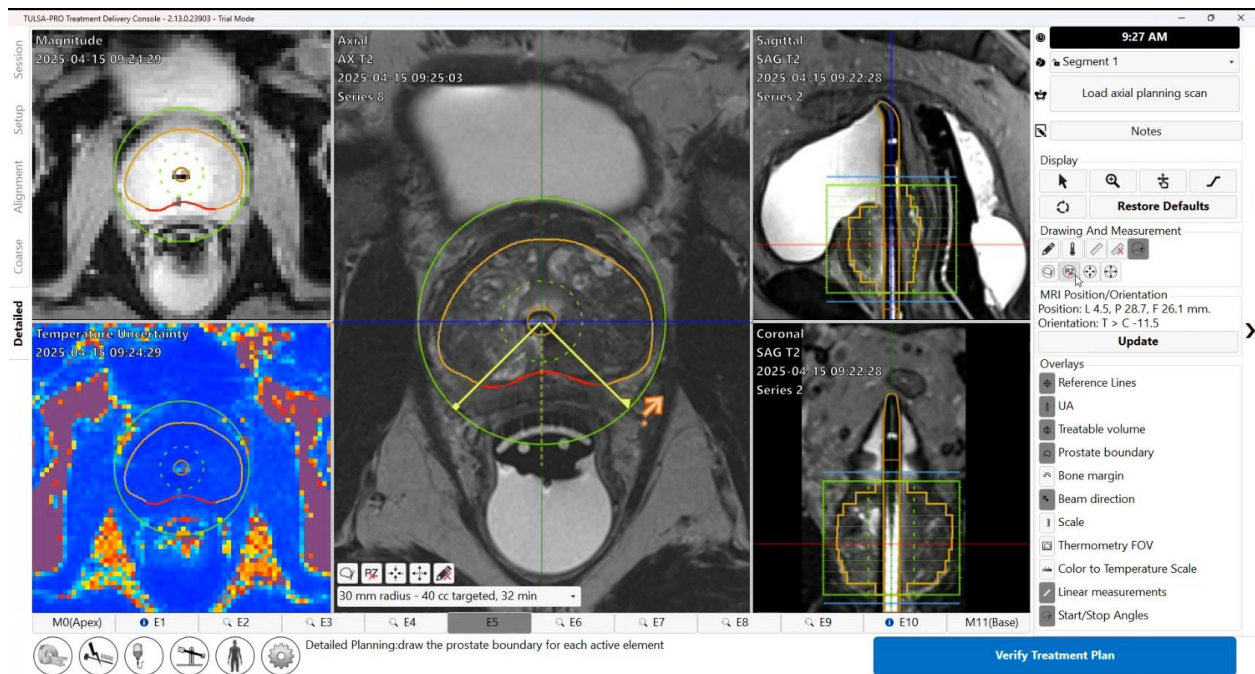

Figure 43: Treatment Planning with PZ Sparing Assistant applied
**PZ Sparing Assistant** button (  ) in the **Drawing and Measurement** tool area to automatically adjust the boundaries on all slices to spare posterior prostate tissue adjacent to the rectum, neurovascular bundles, ejaculatory ducts, and tissue adjacent to the prostate apex and bladder neck (*Figure 43*). To further reduce the boundaries following the same sparing logic, click the **PZ Sparing Assistant** button repeatedly until the desired treatment plan is achieved.